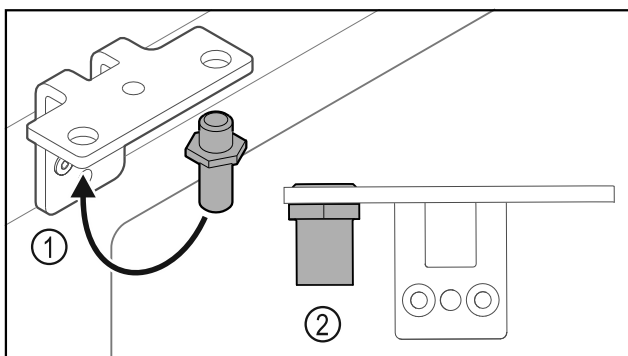

Fig. 24
- ▶ Put the pin back into the hinge Fig. 24 (1).
- ▶ Tighten the pin Fig. 24 (2) to a **torque of 12 Nm**.